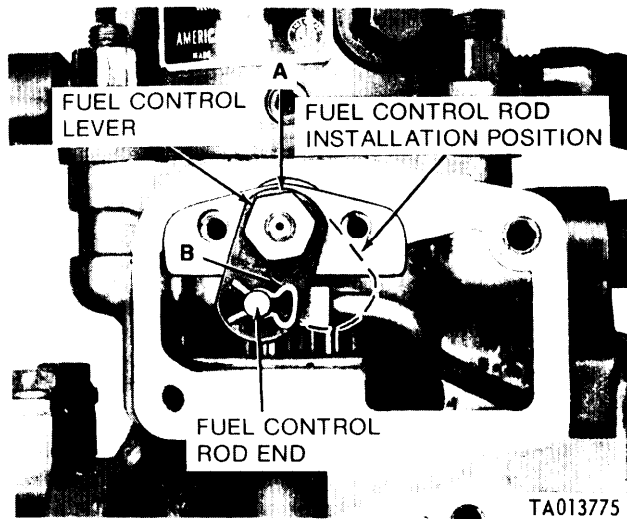
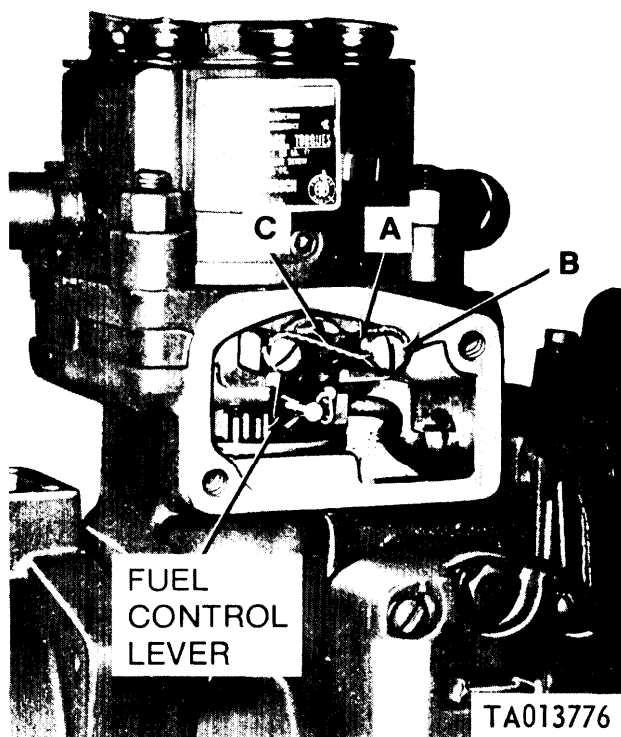

Figure 3-150. Installing fuel control unit assembly on metering and distributing fuel injection pump.
Figure 3-151. Installing control unit retainer.
c. Refer to figure 3-150. Aline the control rod end with the hole in the control unit lever (A) and install retaining pin (B) as shown. Refer to figure 3-151, Install control unit retainer (A) and secure with two assembled washer screws (B). Torque tighten screws to 18-23 inch-pounds. Clearance between retainer and control unit shaft must be .0100 to .0250 inches. Secure screws with locking wire (C).